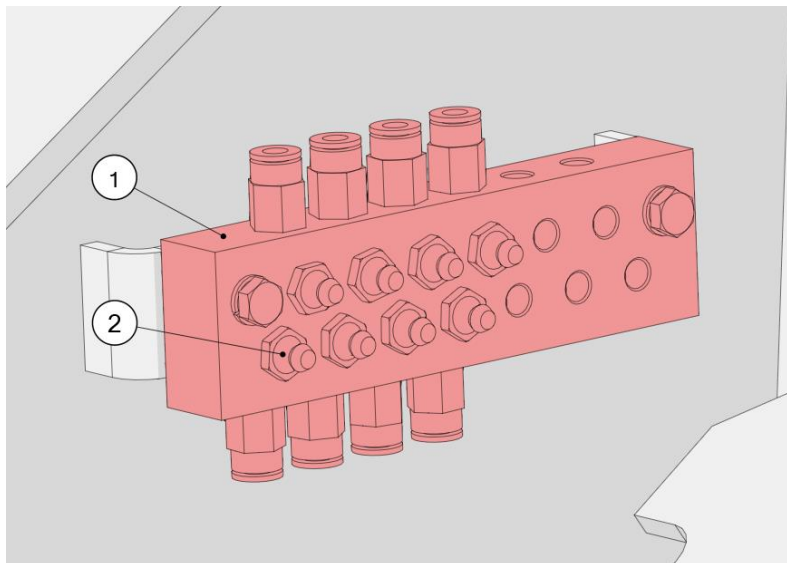

Figure 30. Central lubrication system for the bearings
The Z514 baler is fitted with the integrated bearing lubrication system. The strips (1) with grease nipples (2) enable the lubrication of machine bearings (Figure 30). The strips are located on the left- and right-hand side of the Baler. Grease them according to the lubrication schedule (**Table 3**).